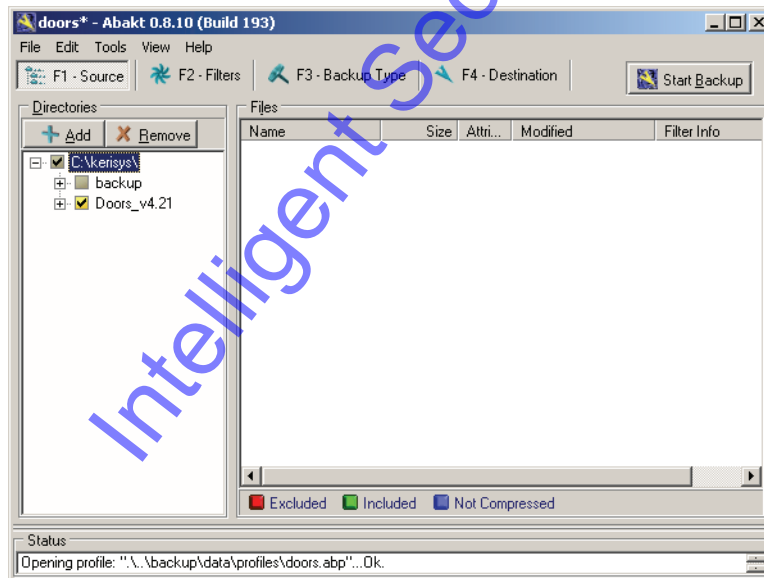

Figure 5-51: Abakt - Setup Source Page
1. To change the location of the files to be backed up, click on the  button. A Browse for Folder window appears (see Figure 5-51 on page 49 of this section).
5. To remove the folder from the back up directory, click on the  button. The folder is removed from the backup directory (see Figure 5-51 on page 49 of this section).